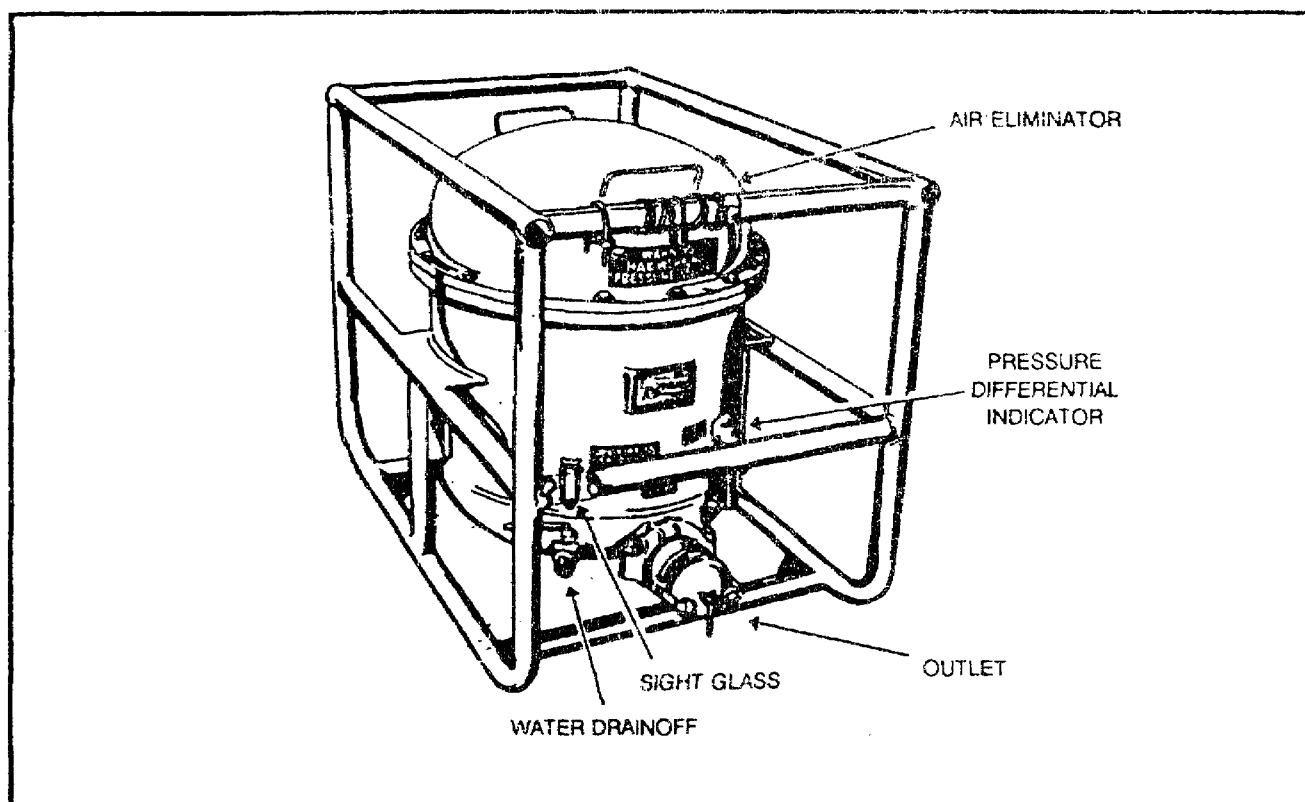

Figure 1-4. 350-GPM filter/separator
a. Description. The 350-GPM filter/separator (shown in Figure 1-4) consists of an aluminum pressure tank with a removable head. The tank is welded on a tubular aluminum frame for support and protection. It has an inlet pipe through which unfiltered fuel enters, an outlet pipe through which the filtered fuel leaves, an internal inlet manifold, and risers for mounting 18 filter element and canister assemblies. The filter/separator also has an air vent valve so that air can be let out of the tank, a sight glass to indicate the water level by means of a float ball, and a manually operated water drain valve to drain water from the tank. A pressure differential indicator shows when you need to change the filter elements. A reading in the green (0 to 20 psi) means the elements are clean. Change the elements at the end of the day's operations when a reading is in the yellow (20 to 35 psi). Change the elements at once when a reading is in the red (35 psi and up).